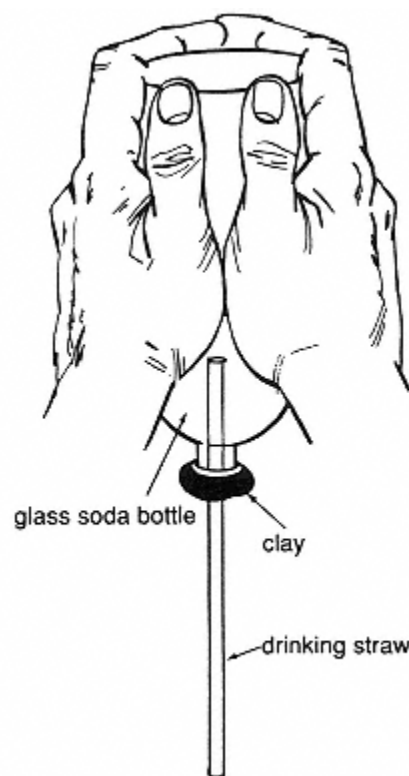

Figure 29.1
6. Hold the bottle in your hands for one minute (see Figure 29.1).